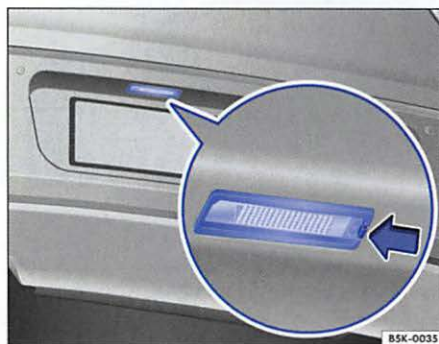

Fig. 3 In the rear bumper: license plate light.
2.	Carefully insert the flat blade of the screwdriver from the vehicle tool kit in the direction of the arrow into the slot in the license plate light ⇒ booklet Owner's Manual , chapter Vehicle tool kit ⇒ fig. 3.